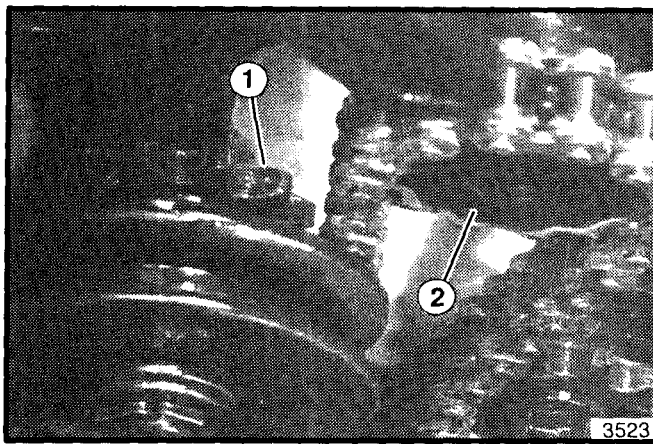

Figure 29. Hopper Drive
With the belt covers removed, raise and lower the reel using the Reel Lift Lever, and check to make sure the sprocket on the inside of the hopper drive pulley (see figure 29) properly engages the drive chain from the transmission.
1. If the pulley sprocket **does not** align with the chain, the set screw in the drive sprocket (see figure 29) on the transmission can be loosened, and the sprocket moved in or out on its shaft to align the chain with the pulley sprocket.